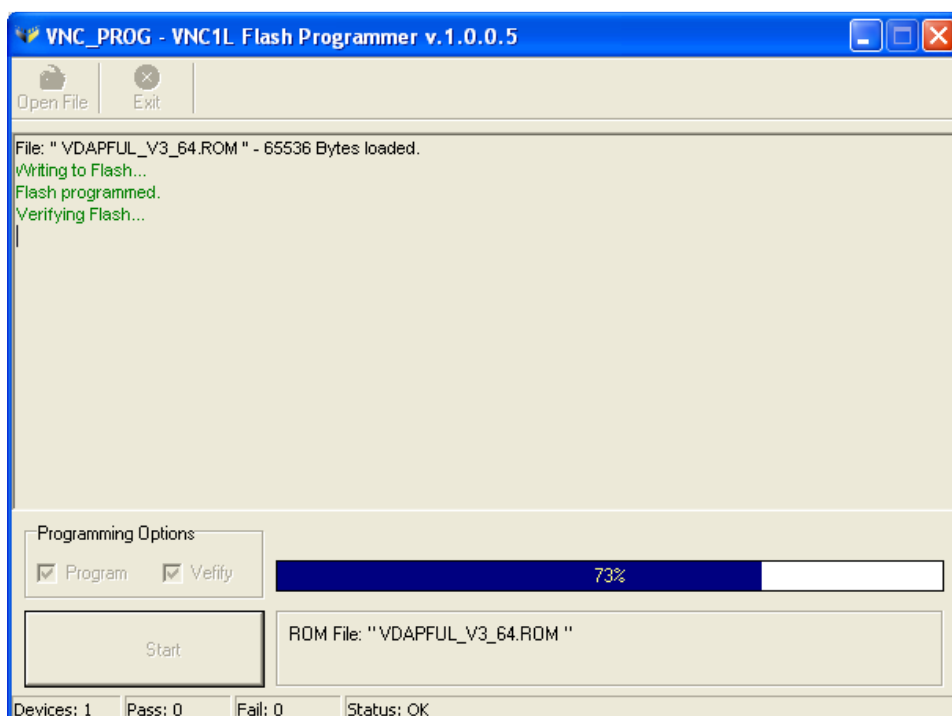

Figure 3.7 VPROG-1 Verifying the Programming of VNC1L-1A
5. The VPROG-1 will then verify that the device has been programmed. The user interface is shown in Figure 3.7.